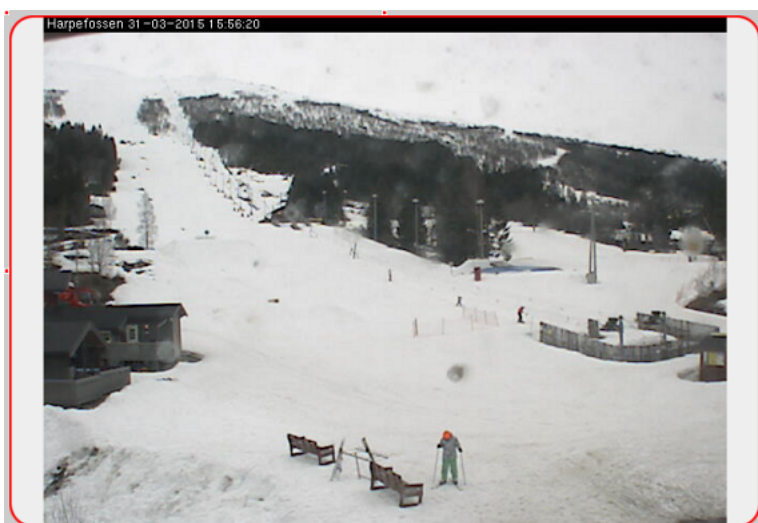

FIG. 37 Example button with a Dynamic Image applied
5. Click **OK** to close the *Bitmaps* dialog – the dynamic image will be represented in the selected UI element. As an example, FIG. 37 shows a button with a dynamic image applied: